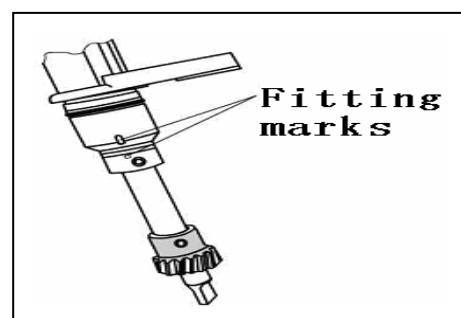

Fig.3-11 *The direction of piston and oil pump shaft*
- A. Rotate crankshaft to TDC position. Then use a screwdriver to turn the groove in shaft end of oil pump (refer to fig.3-11).